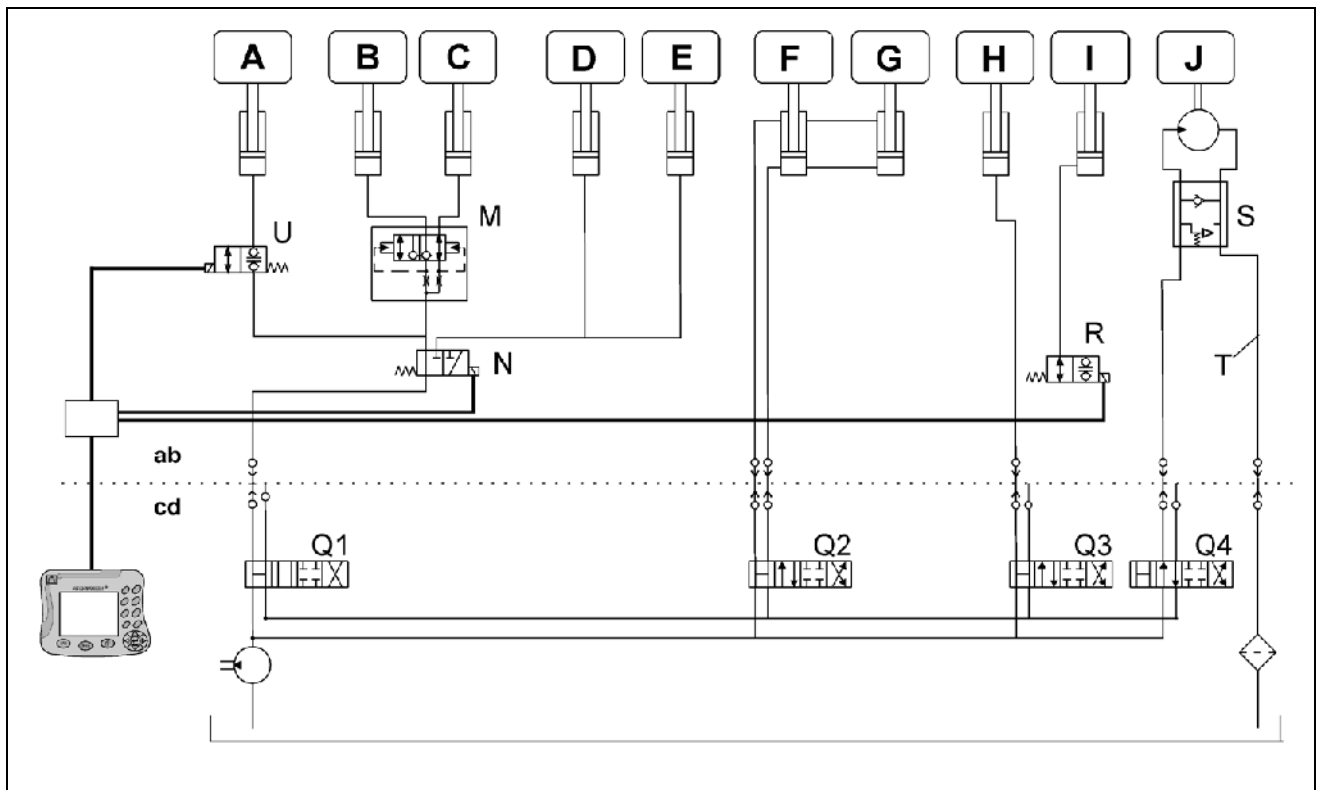

**Fig. 30**
**Do not create other connections than shown in the circuit diagram (Fig. 30).**
On the pressure side the blower fan hydrostatic motor (Fig. 30/1) may be connected to either a single or to a double acting Control valve (Fig. 30/8).
In order not to damage the hydrostatic motor, the oil pressure in the return flow (Fig. 30/6) must not exceed 10 bar. Therefore, never connect the return flow to the Control valve (Fig. 30/8) but to a non-pressurised return flow with a large plug coupling (included in the scope of delivery) (Fig. 30/11).
The hydraulic oil must be guided through an oil filter (Fig. 30/7) at any place of choice.
The check valve (Fig. 30/4) allows the blower fan to run after as soon as the Control valve (Fig. 30/8) has been shut off.
Ensure that the hydraulic oil does not get too hot. If large amounts of oil are fed into small oil tanks the hydraulic oil will heat up. The capacity of the oil tank (Fig. 30/9) should at least have the double of the oil delivery amount. If the oil gets too hot, the installation of an oil cooler on the tractor by a professional workshop is necessary.
Particles of dirt may damage the blower fan hydrostatic motor (Fig. 30/1) and the pressure relief valve (Fig. 30/3). For this reason, always keep clean the coupling parts when connecting the blower fan hydrostatic motor to the tractor's hydraulic to avoid the hydraulic oil becoming dirty.